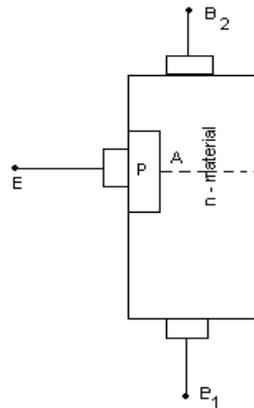

Fig. 1
Description :- In UJT a Silicon bar is taken and it is lightly doped with V- group material. So the silicon bar acts as lightly doped n – material and on one side of the bar above center a small region is heavily doped with III – group element Which then acts as P – material. Some times instead of doping with 3rd group element a Aluminum wire is made contact at that region and that region acts as P- material. At the two ends of n – type material two wires are connected with ohmic contact, these two terminals are called “Bases” (B_1 - lower and B_2 - upper) and another wire for the P – region is connected and is called “Emitter” (E). The UJT is as shown in Fig. 1